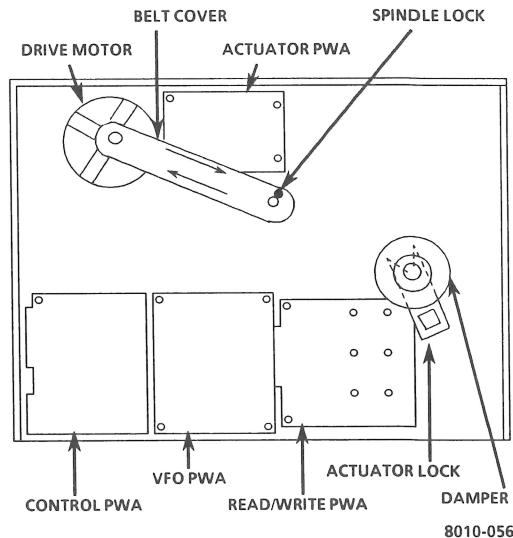

Figure 3-9 29MB Disk Drive Assembly
#### ACTUATOR LOCK SPINDLE LOCK FIGURE 3-9
#### REMOVAL (FIGURE 3-9)
## REMOVAL (FIGURE 3-9)
**REMOVAL (FIGURE 3-9)**